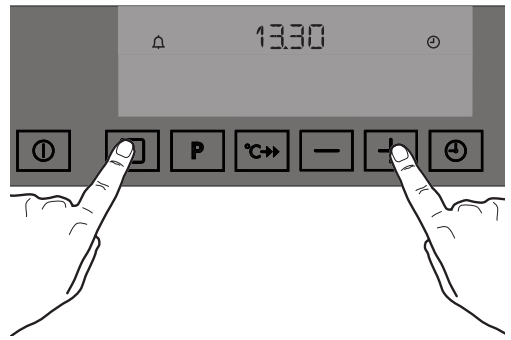

Fig. 22
1. Press controls  and  at the same time for about 3 seconds. The Electronic Control beeps once (Fig. 22).